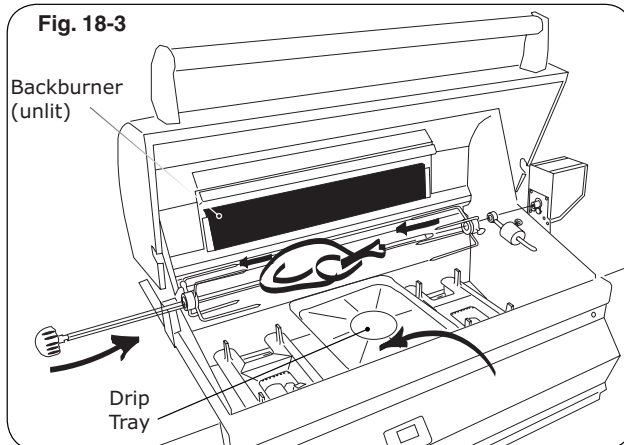

Fig. 18-3
4. Slide left meat holder onto rod as shown in Fig. 18-3 and tighten screw.
5. Slide meat onto rod and into holder (Fig. 18-3).
6. Slide right meat holder onto rod and into meat (Fig. 18-3). Tighten screw.